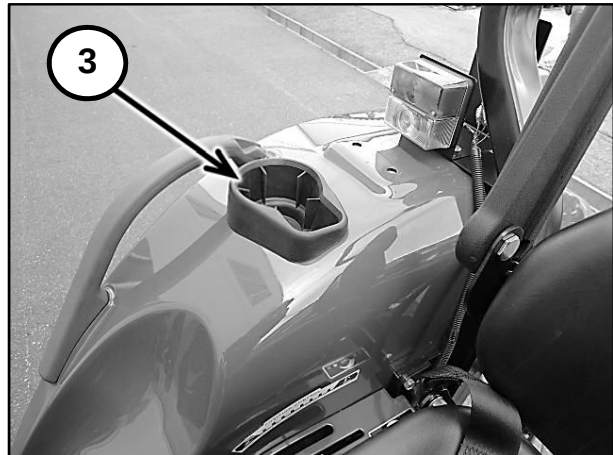

Figure 2-45
A drink holder (3) in Figure 2-45, is attached to the right side fender, for the operator's drink storage convenience.